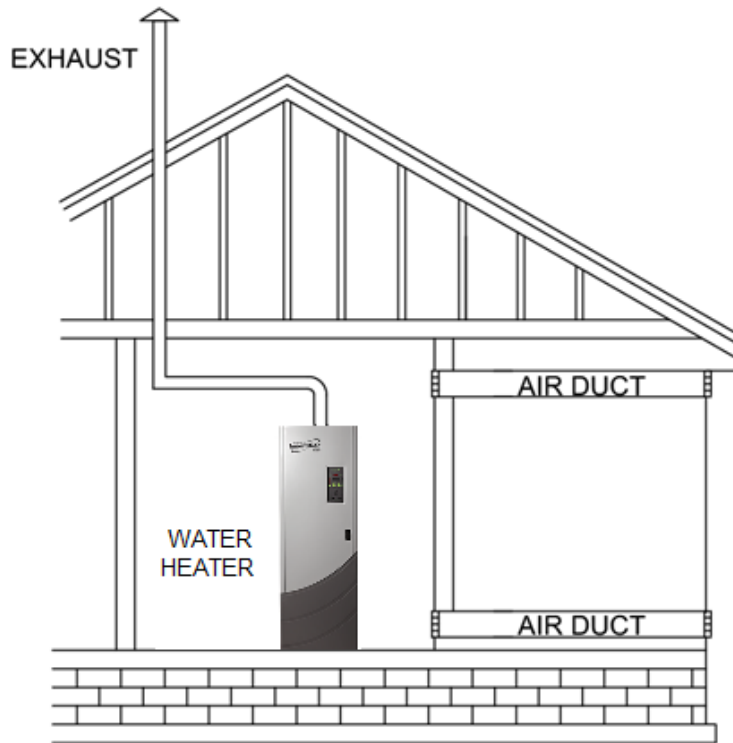

Figure 5: All Combustion Air from Outdoors – Through Horizontal Ducts
2. When communicating with the outdoors through horizontal ducts, each opening shall have a minimum free area of 1 inch² per 2,000 BTU/hr. (654 mm²/0.59 kW) of total input rating of all appliances in the space (see Figure 5).